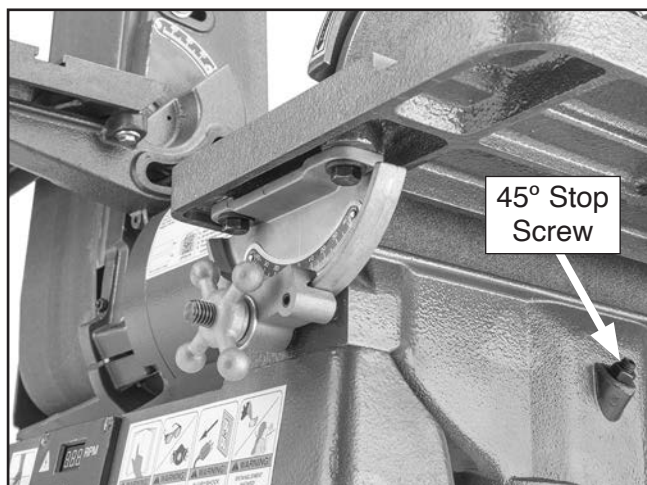

Figure 53. Location of 45° stop screw.
4. Adjust table down until table contacts 45° stop screw (see **Figure 53**).